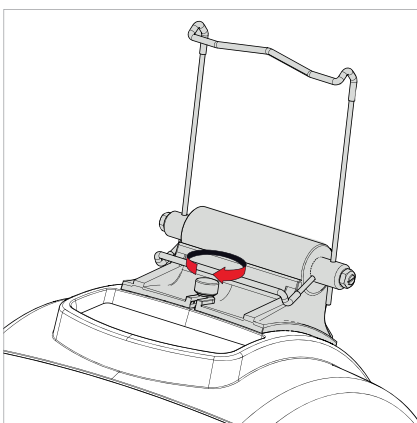

Fig. 14
- 4) Screw down and tighten the knob to secure the tablet stand to the cover (Fig. 14).